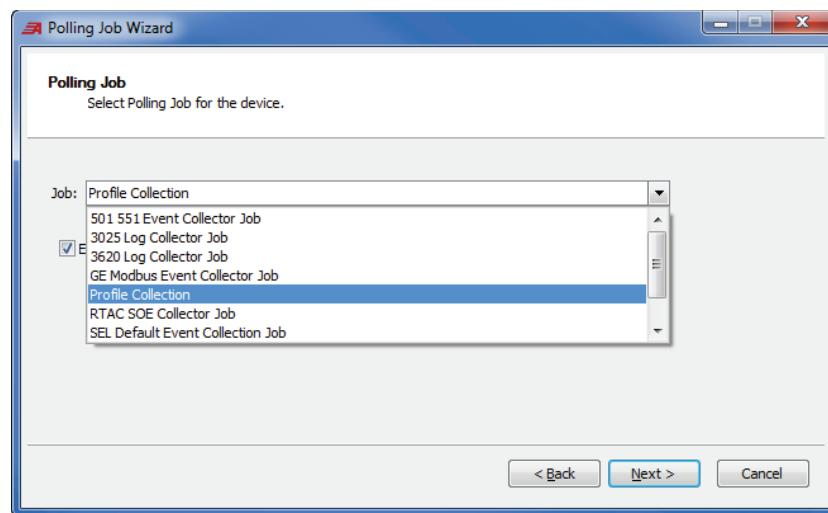

Figure 187 Polling Job Selection
- Step 4. Select **Profile Collection** in the **Job** drop-down menu and ensure that the **Enable Job** check box is selected as shown in *Figure 187*.